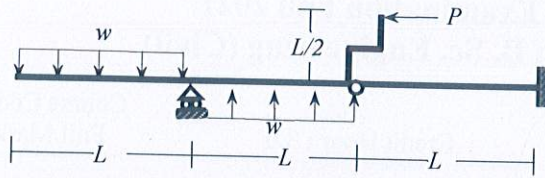

**Fig. 4**
4. For the beam loaded as shown in **Fig. 4**, determine  $\theta_{D(+)}$ ,  $\theta_{D(-)}$  and  $\Delta_D$  using Moment area theorem [Given:  $EI = 46000 \text{ k-ft}^2$ ].